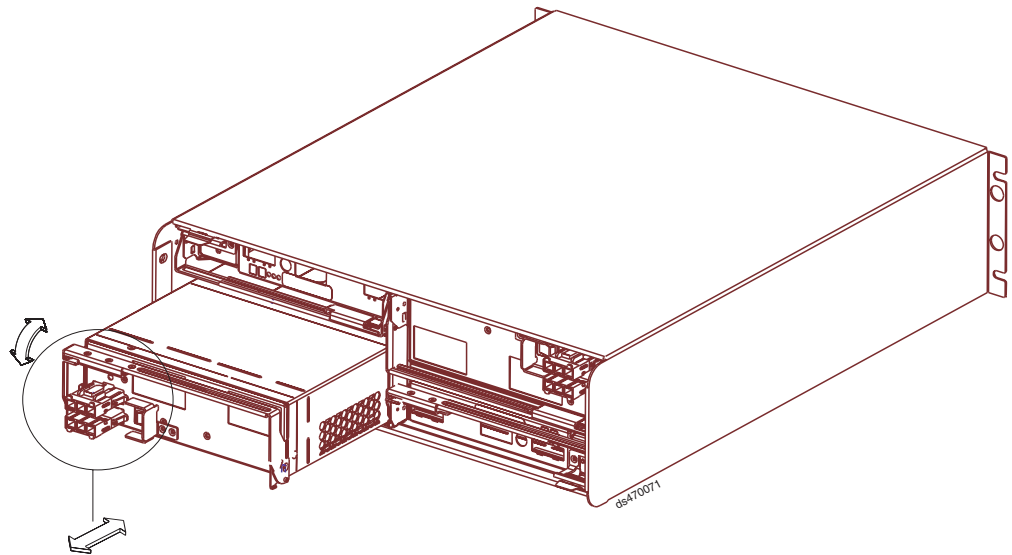

Figure 23. Removing a dc power supply and fan unit
2. Slowly pull the lever away from the chassis to remove the dc power supply and fan unit, as shown in Figure 23 on page 45.